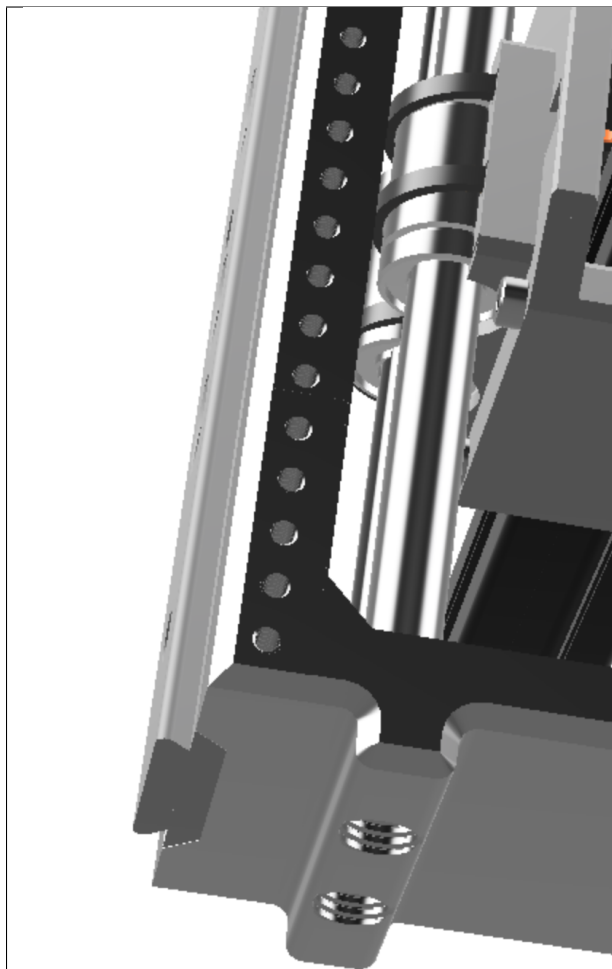

Fig. 1: 1.Front rods
1. Slide the 126 mm smooth rods to the front of the z-assembly and insert the linear bearings onto each rod (Fig. 1. below)
Begin by attaching one end of the belt (blue and red in Figure 1 indicate different belts) to the carriage (as seen below). The route for the belts can be seen below. Note that the teeth of the belt must engage with the timing pulleys attached